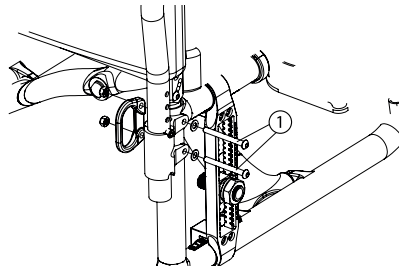

Fig. 21
- Remove the two bolts (1) (Fig. 21).